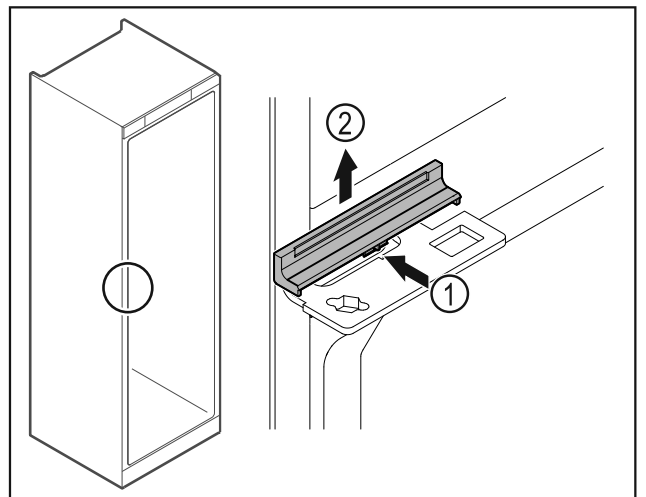

Fig. 42
- ▶ Gently press the middle of the cover *Fig. 42 (1)* and lift it off *Fig. 42 (2)*.